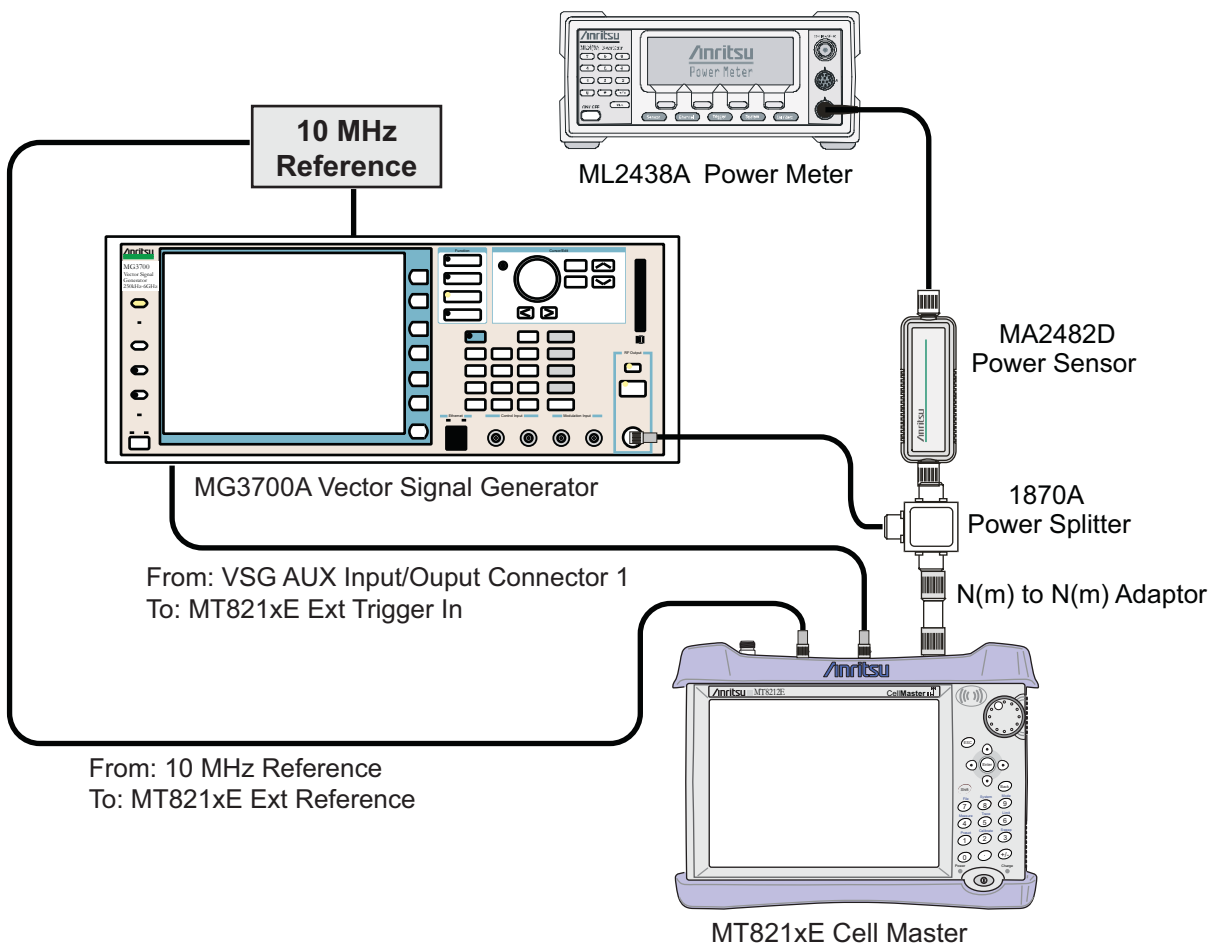

Figure 5-13. EVDO Signal Analyzer Option Verification
2. Connect the equipment as shown in Figure 5-13.